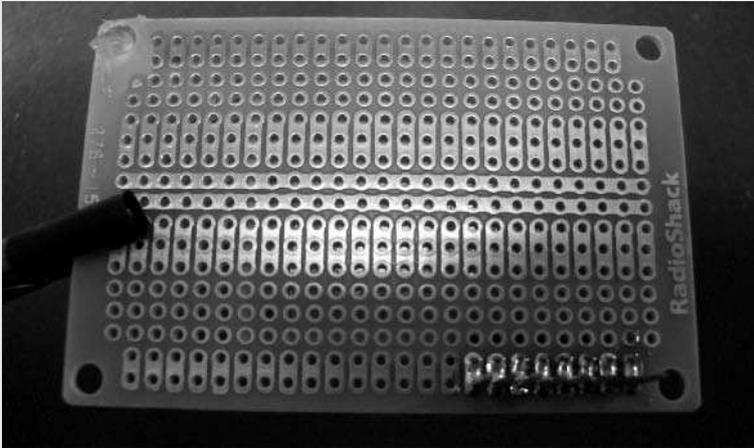

FIGURE 13-20: Soldering down the posts and header socket
3. Take an 8-pin header socket and solder it down immediately next to it. Notice that since the pads are joined, the connection between the two is made for you (see Figure 13-20). If the header socket has plastic flanges that make it hard to fit, snip them with cutters.